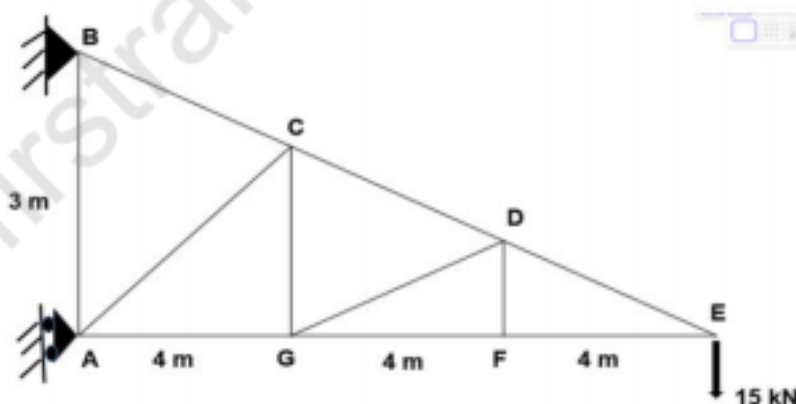

Fig.1
- a) Determine the forces in the members by method of joints. See Fig.1